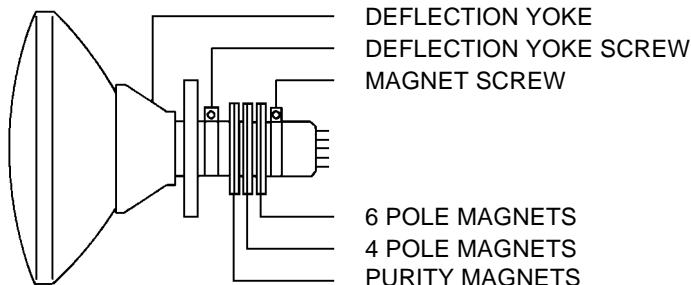

Fig. 3-1
1. Tighten the screw for the magnet. Refer to the adjusted CRT for the position. **(Refer to Fig. 3-1)**